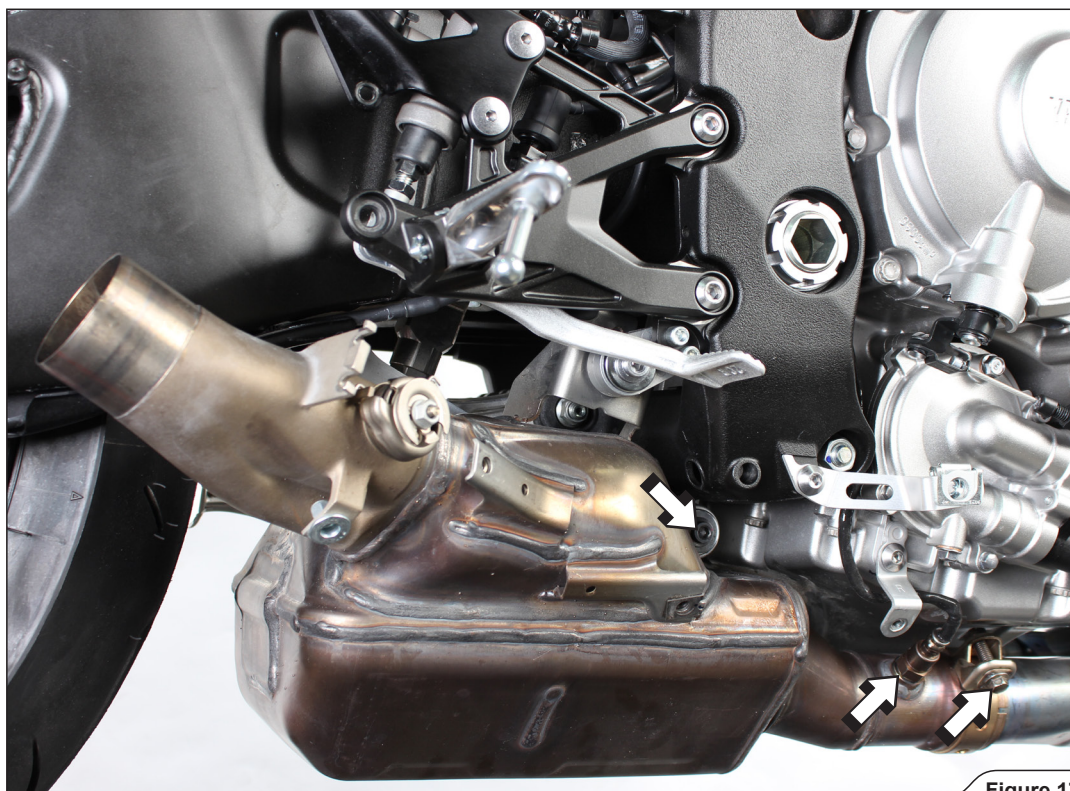

Figure 17
14. Unscrew marked bracket bolts on both side of the motorcycle and carefully remove stock collector off the motorcycle (Figure 17, 18).